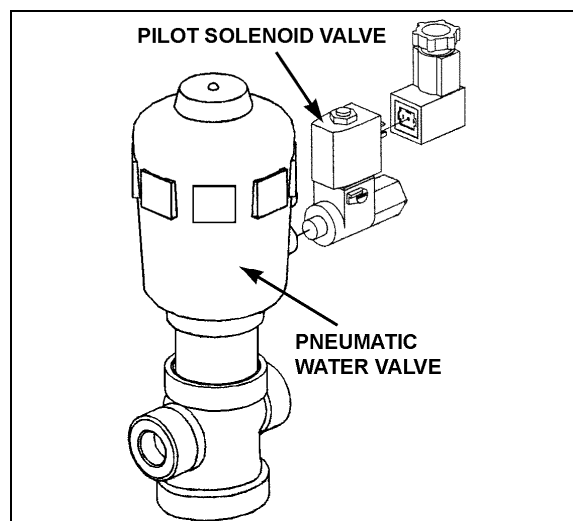

FIGURE 47: CENTRAL HOT WATER PNEUMATIC VALVE ASSEMBLY 22329
2. The water valve need not be removed from the line. Unscrew nipple, the actuator casing, tube, spindle and closure member can be removed (Fig. 47).